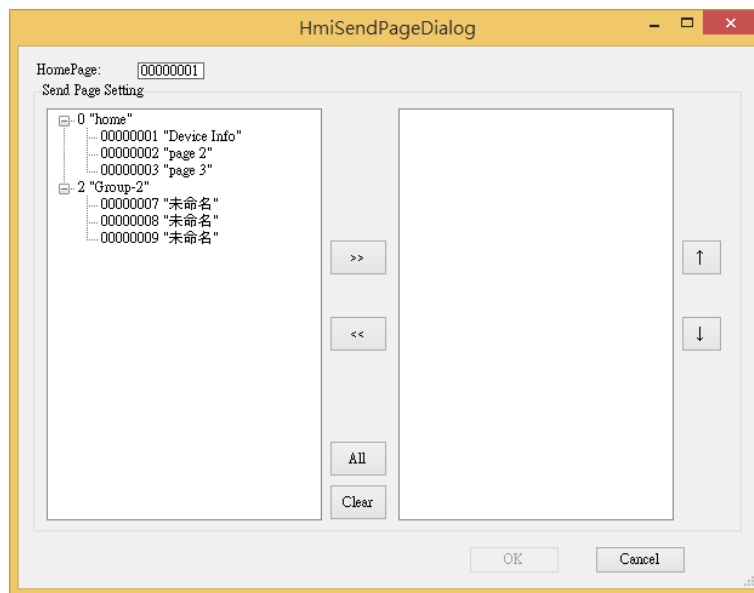

Figure 5-3 Select export page group
- 13.1 Select export page: Click the Export button to select the page you want to export, as shown in Figure 5-3 ◦
13.2 Figure 5-3 The left is the group of selectable page, the right is the group of exported page.
- 17.1 Select Export Page Group: Please refer to Export to HMI Panel Group, as shown in Figure 5-3 °